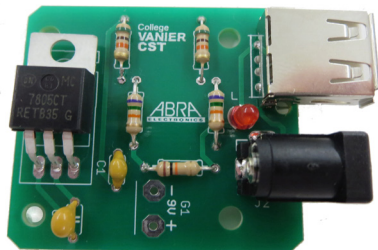

Fig. 9
9. Install and solder the J2 DC Power Jack as shown in fig.9.